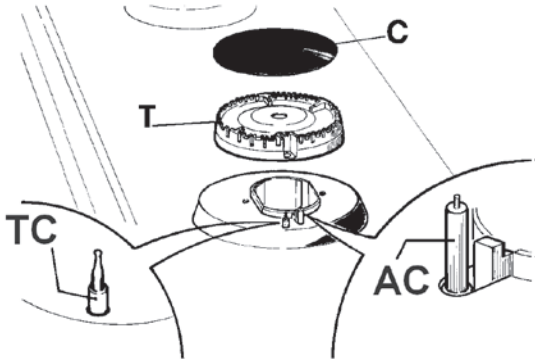
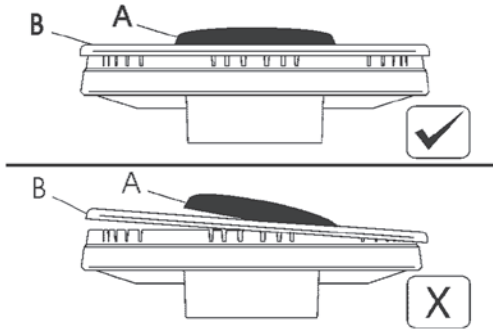
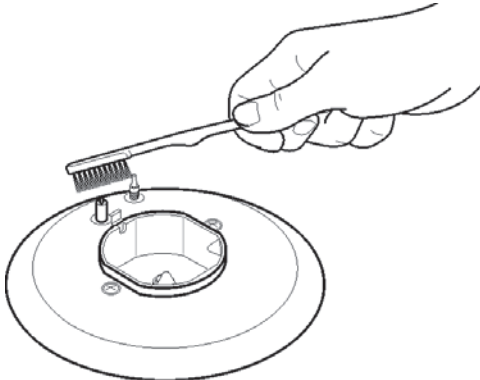

FIG.5
FIG.6
FIG.7
Periodically wash the hot plate, the enamelled steel pan support, the enamelled burner caps "A", "B" and "C" and the burner heads "T" (see fig. 5 and 6) with lukewarm soapy water. They should also be cleaned plugs "AC" and flame detection "TC" (see fig. 6). Clean them gently with a small nylon brush as shown (see fig. 7) and allow to dry fully.
- Check that the holes in the burner heads "T" (fig. 5) are not blocked by foreign bodies.
- Ensure that the enamelled covers "A", "B" and "C" (fig. 5 and 6) are correctly positioned on the burner head. The covers are correctly positioned on the head when they are perfectly stable.
- To prevent difficulties with lighting, regularly clean the ignition elements (ceramic and electrode) and safety cut-off devices (fig.7).